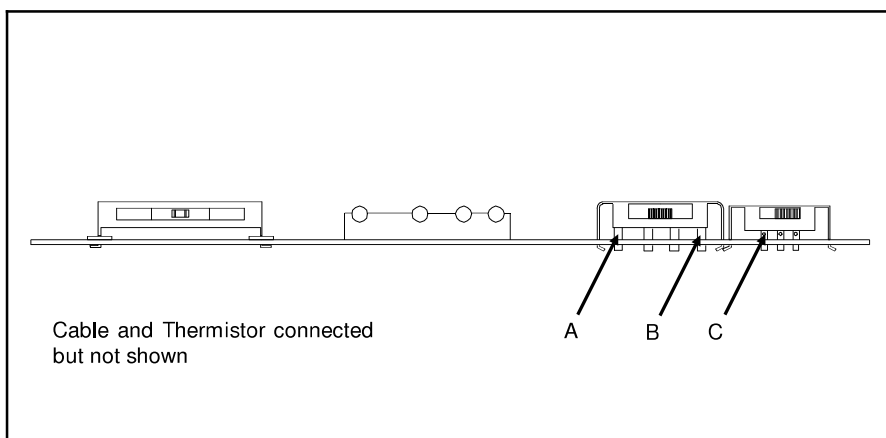

Figure 11.59 Control Voltage Check
16. With the volt-ohm-meter, check the points A, B and C indicated in Figure 11.59 for 12 volts DC. If you do not have 12 volts the cable is defective.
17. Set the Mode Selector to all modes of operation. The 12 volts shown in Figure 11.59 should go to zero volts. If not, the Eyebrow board is defective.